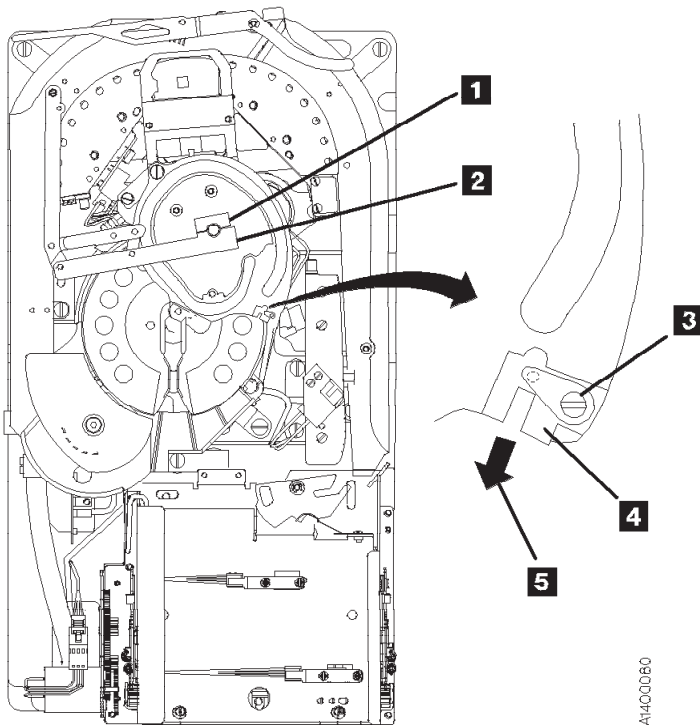

Figure 10-72. Tape Path B Sensor
3. See Figure 10-72. Position the pantocam arm **2** so the arm is away from the tape path B sensor **4** .